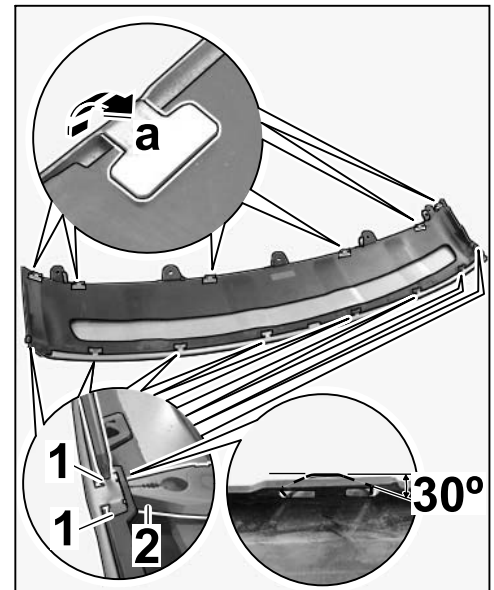

Figure 12
2.5.1 Bend the rear holders by 180° (⇒ *Figure 12 -arrow a-*).
2.5.2 Press retaining lugs down by approx. 30° (⇒ *Figure 12 -inset-*). Counter using flat-nosed pliers or a similar tool.